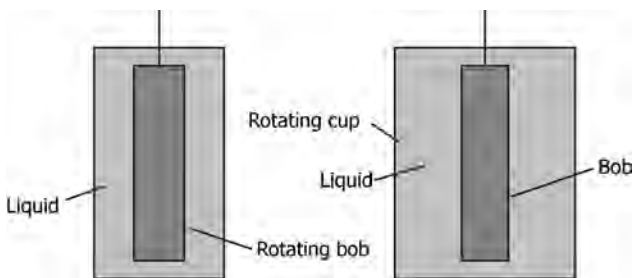

FIGURE 1.4 Cup and bob coaxial viscometers.
■ *Cup and bob* viscometers (Figure 1.4) work by defining the exact volume of sample that is to be sheared within a test cell; the torque required to achieve a certain rotational speed is measured and plotted. There are two classical geometries in *cup and bob* viscometers known as either the *Couette* or *Searle* systems—distinguished by whether the cup or bob rotates.